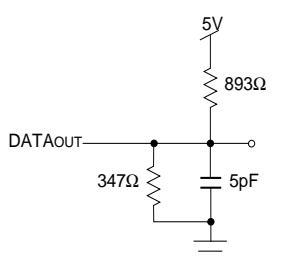

Figure 2. Output Test Load
- Transition is measured $\pm 200\text{mV}$ from Low or High-impedance voltage with the Output Test Load (Figure 2).
1. Transition is measured +/-200mV from Low or High-impedance voltage with the Output Test Load (Figure 2).
3. Transition is measured $\pm 200mV$ from Low or High-impedance voltage with the Output Test Load (Figure 2).